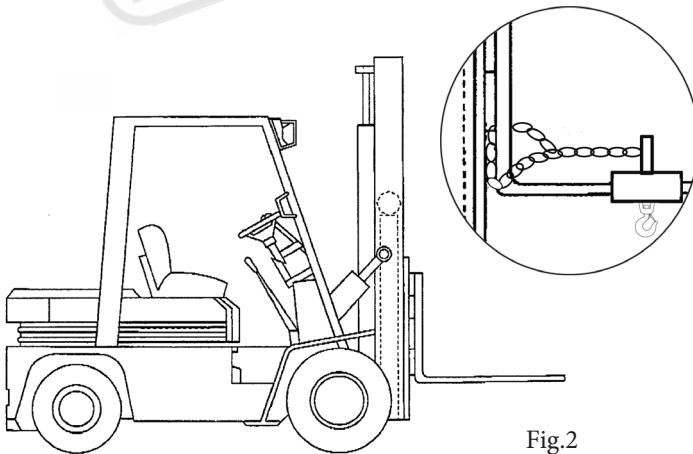

Fig.2
Note! The attachment must never be used without the safety chain being attached securely to the carriage or the mast as in Fig.2
- e. The attachment must be checked that it is securely attached to the forklift with the safety chain as per Fig 2, by the operator